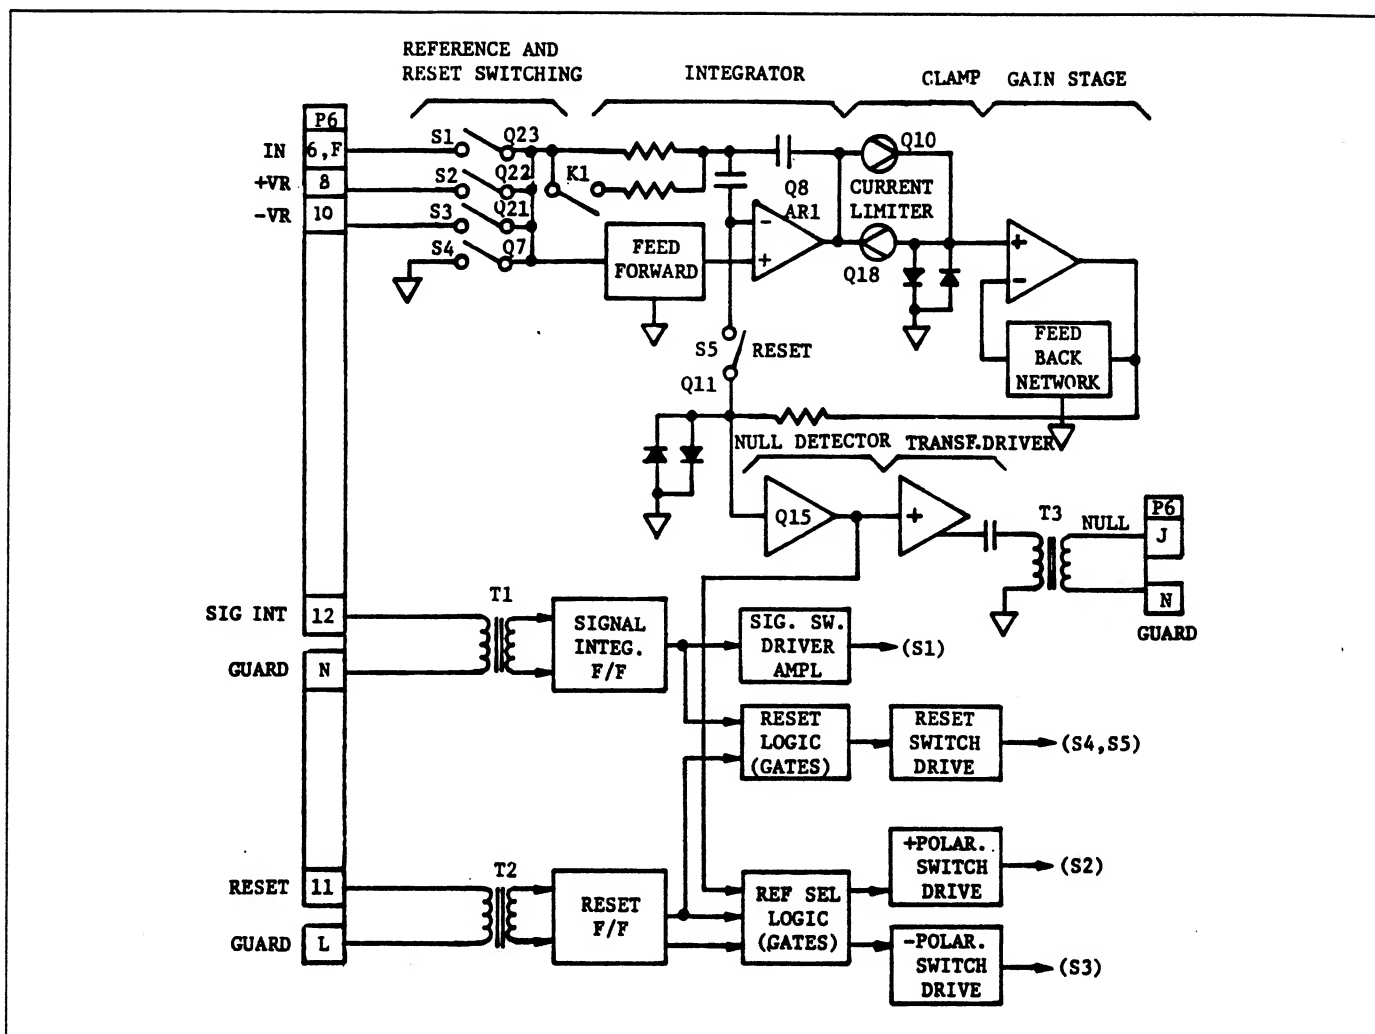

Figure 5.17 - Digitizer Block Diagram
5.3.5.6.1 The Digitizer (Figure 5.17) performs the analog to digital conversion in the DMM. The circuitry includes integration circuitry, a switching network, gain stage, null detection and signal and reset logic.